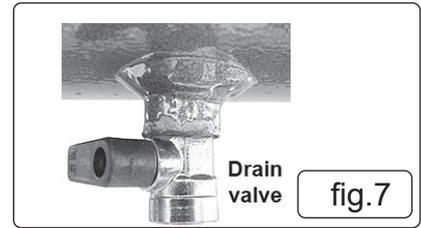

fig.7
- A:** Drain condensation by opening the valve located under the tank (fig 7). Place a container under the valve and slowly open the valve by turning counter clockwise.